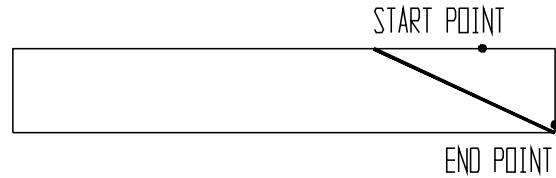

FIG. 1
Step 6. To indicate Start Point move cursor to the top line of the chassis toward the front (right) and click, **Fig. 1**.
Step 9. To indicate End Point click the bottom front corner, **Fig. 1**.